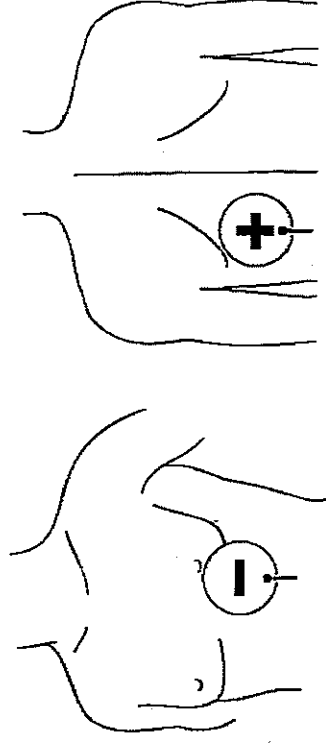

Figure 5-3 Anterior-posterior electrode placement for pacing
- 7 Place the black ANTERIOR (-) electrode on the left anterior torso, halfway between the xiphoid process and the left nipple at apex of the heart. The upper edge of electrode should be below the nipple (see Figure 5-3). Avoid placement over the nipple, diaphragm, or sternum, if possible.
- 8** Place red **POSTERIOR (+)** electrode on left posterior torso beneath the scapula and lateral to the spine at heart level. Avoid placement of the electrode over the bony prominences of the spine or scapula (see Figure 5-3).